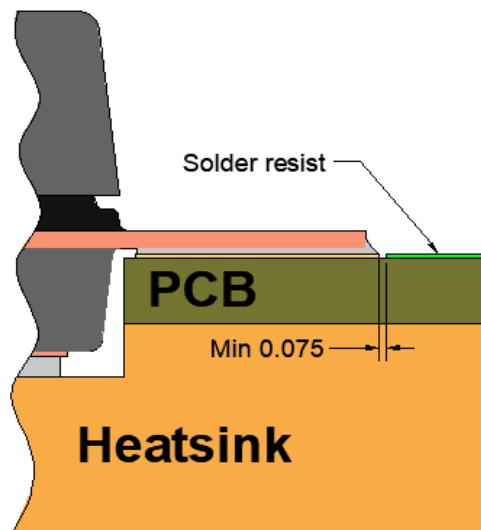

Figure 12. NSMD cross section of a straight leads package
- Non solder mask defined (NSMD) the solder mask openings are larger than the exposed metal pad (Figure 12).